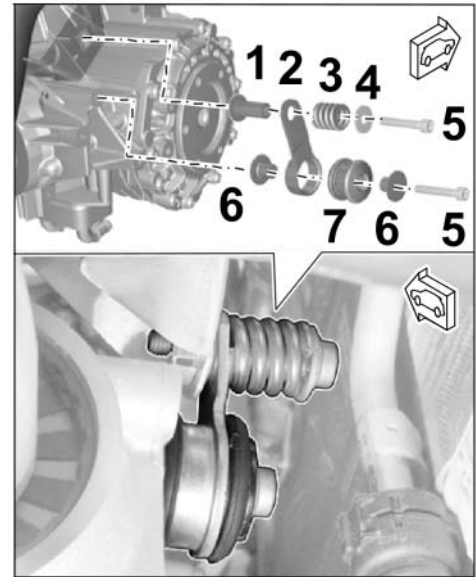

Figure 41
4.1 Install new exhaust pipe(s) with front silencer with a new seal and new spring/tab assembly (⇒ Figure 41):